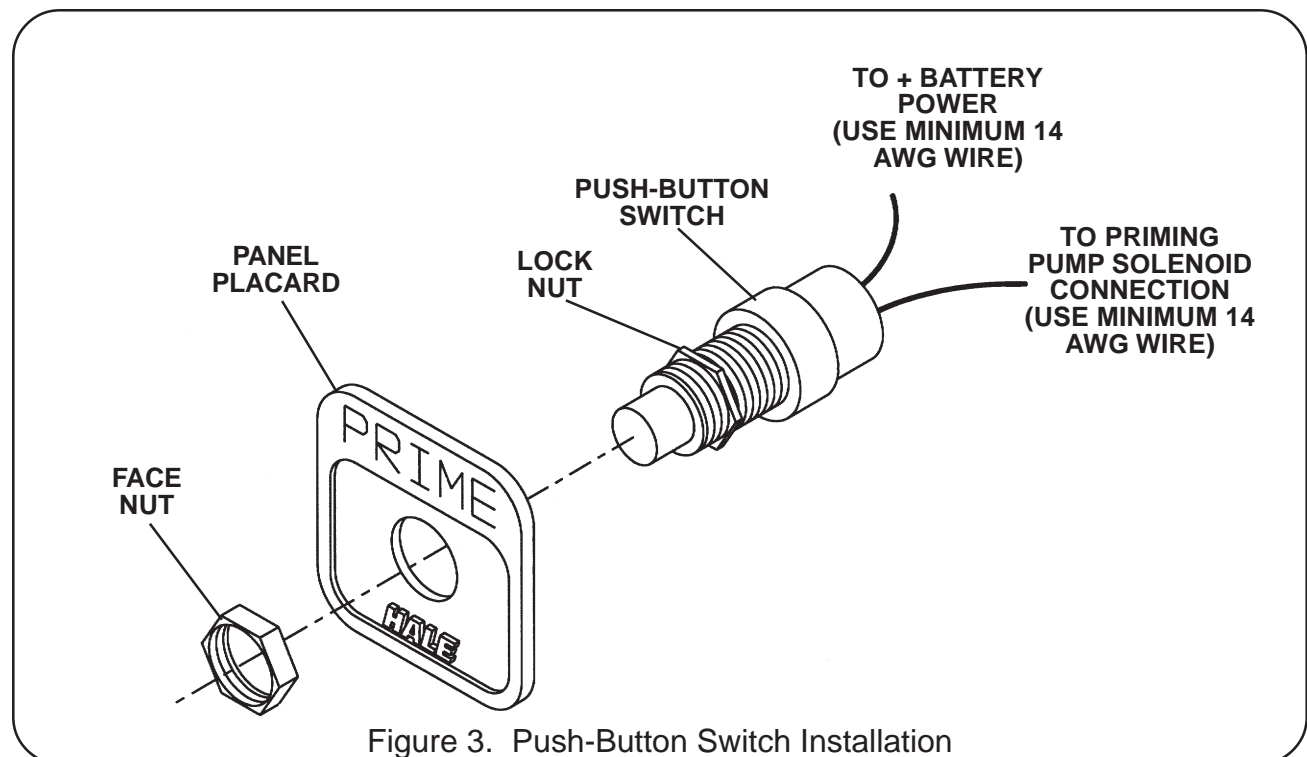

Figure 3. Push-Button Switch Installation
4. Referring to figure 3, Insert the push-button switch through the 0.64 inch (16 mm) diameter hole from the back of the operator panel.